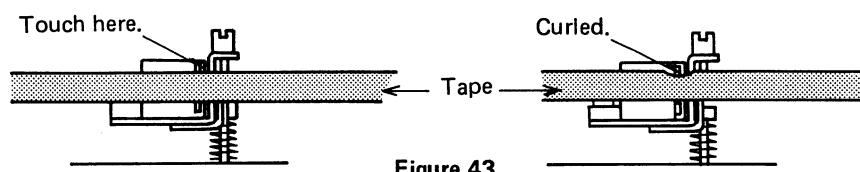

Figure 43
- (n) Confirm that there is a suitable clearance between the erase head level and the head base stopper in play mode as shown in figure 43.